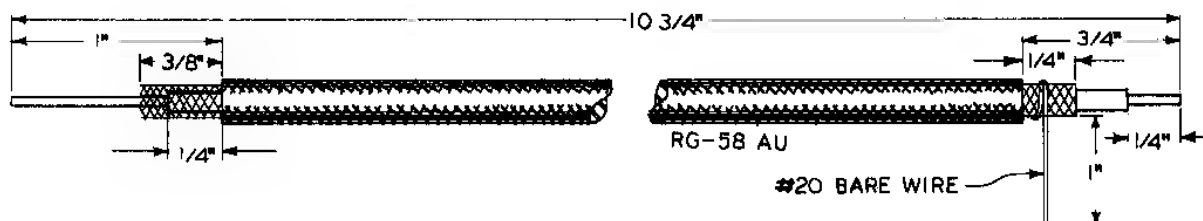

Figure 23
- (✓) Connect a 6.8 K ohm (blue-gray-red) 2 watt resistor between BH-4 (S2) and BH-5 (NS).
- (✓) Connect a 27 K ohm (red-violet-orange) 1 watt resistor between BH-5 (NS) and V3-8 (NS).
- (✓) Connect a 47 mmf (yellow-violet-black) mica capacitor between V3-8 (NS) and BH-3 (S2).
- (✓) Pass one end of a 47 K (yellow-violet-orange) 1/2 watt resistor through V3-2 (NS) to FG-5 (NS). Connect the other end to BH-2 (S2). Now solder FG-5 (S1) and V3-2 (S1).
- (✓) Connect a .005 mf disc capacitor between BB-1 (NS) and BB-2 (NS).
- (✓) Connect the small 11 uh RFC, 45-31, between BB-1 (S3) and BB-3 (NS). Position as shown.
- (✓) Connect a 100 mmf (brown-black-brown) mica capacitor between BB-3 (NS) and FG-4 (S1).
- (✓) Cut a length of coaxial cable 10 3/4" long, cutting fairly accurately as the length is somewhat critical, and prepare the ends of the cable as shown in Figure 23. At one end, strip off 1" of the outer sheath and cut the braid off about 3/8" from the sheath. Strip the center conductor to within 1/4" of the outer sheath and tin. Now insert center conductor into a phono plug and solder the tip. Slip the braid over the plug shell and solder. At the other end, strip away 3/4" of the outer sheath and cut the braid to within 1/4" of the sheath. Wrap a short length of #20 bare wire around the braid and solder, leaving a 1" pigtail. Strip and tin 1/4" of the center conductor.